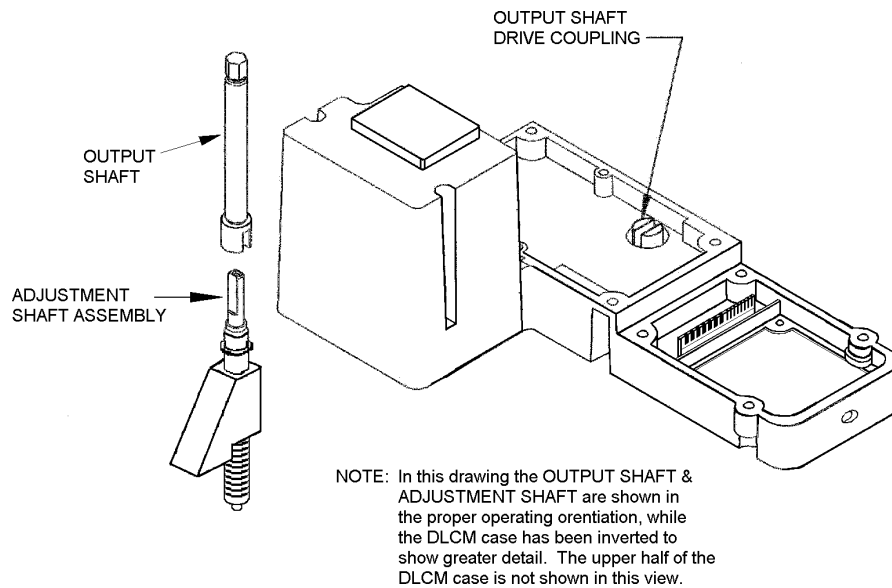

Figure 38 – DLCM/Eccentric Mating Components
12. Note the position of the PULSAR adjustment shaft 'flats'. They mate with a slot in the DLCM drive coupling of the output shaft. The output shaft is connected to the adjustment knob. Familiarize yourself with these mating components prior to installation (refer to **Figure 38**).